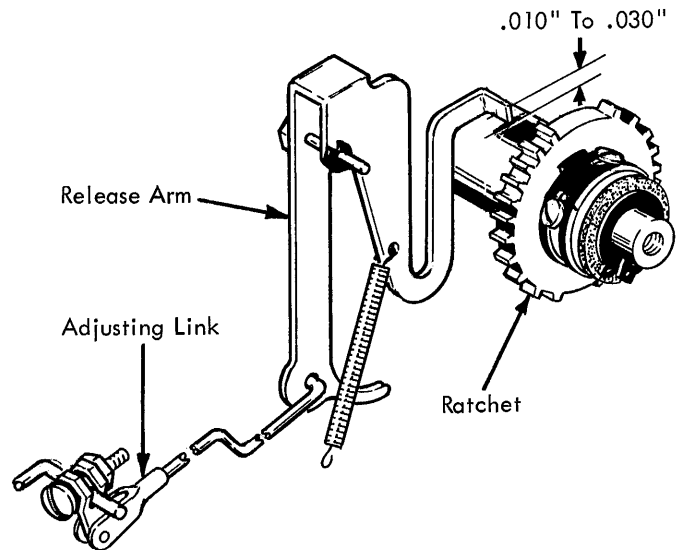

Figure 70. Shift Release Mechanism
5. Shift Release - Adjust the shift release link (Fig. 70). With the shift keylever bottomed, the shift release arm shall clear the shift clutch ratchet stop by $.010''$ to $.030''$. A balance between the two releasing points insures the proper adjustment.
NOTE: The shift bellcrank (Fig. 70) attached to the right end of the bail should be set prior to making the link adjustment. For proper leverage the bellcrank should operate with same over-center travel in both directions.